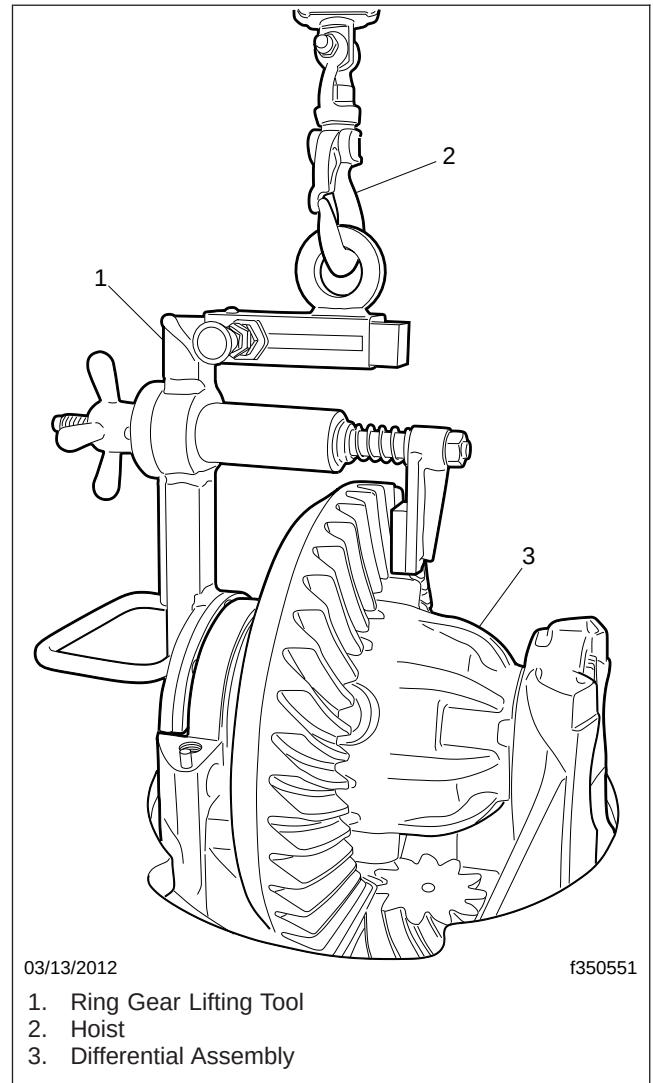

Fig. 2, Removing the Differential Assembly
7. Install the differential lifting tool as shown in Fig. 2, and use a suitable lifting device to remove the differential assembly from the housing and set it on a work bench.